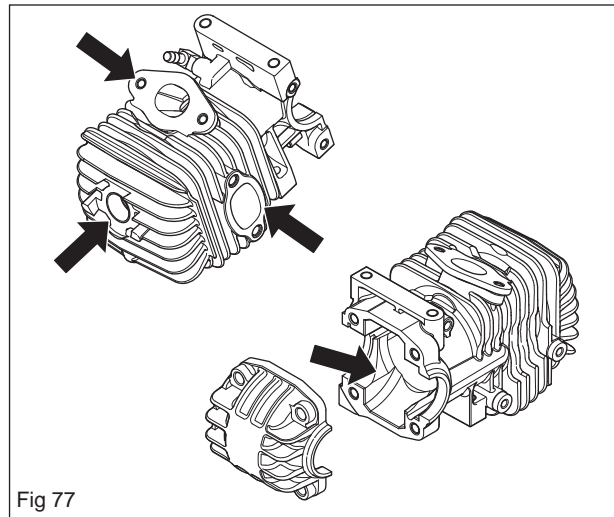

Fig 77
- The base of the cylinder and/or crankcase (see figure 77)